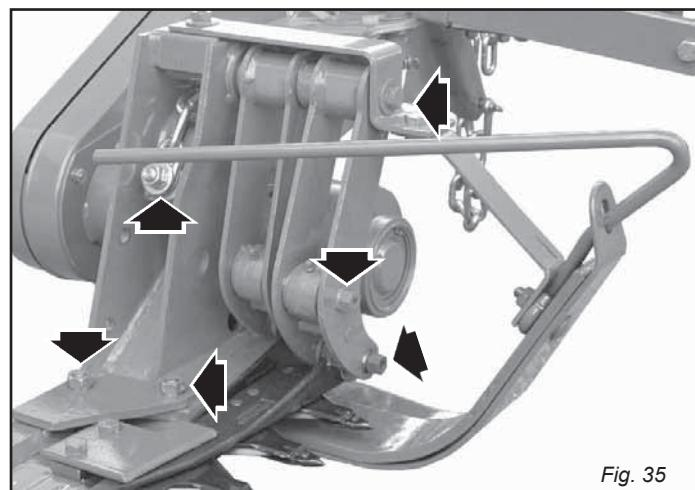

Fig. 35
- During the first working hours, check that the screws are tight (Fig. 35).
- Check the tightness of the connecting rod bolts regularly (Fig. 35).